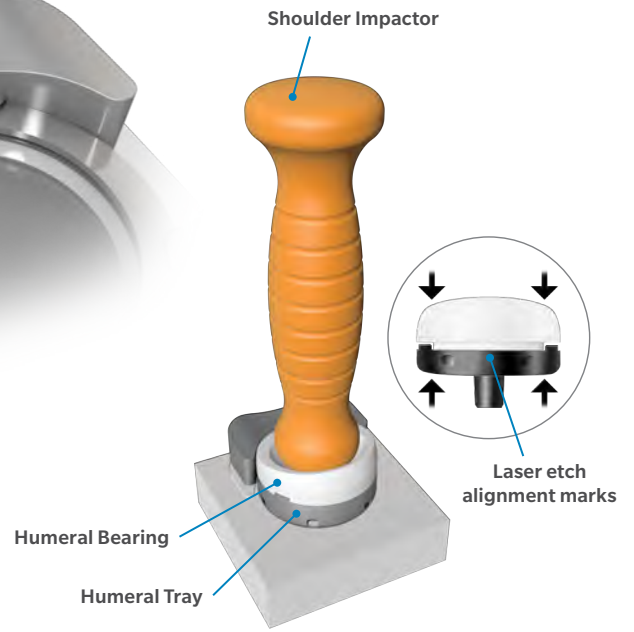

Figure 37
- With two firm strikes of the Impactor, impact the Humeral Bearing into the Humeral Tray (Figure 37).